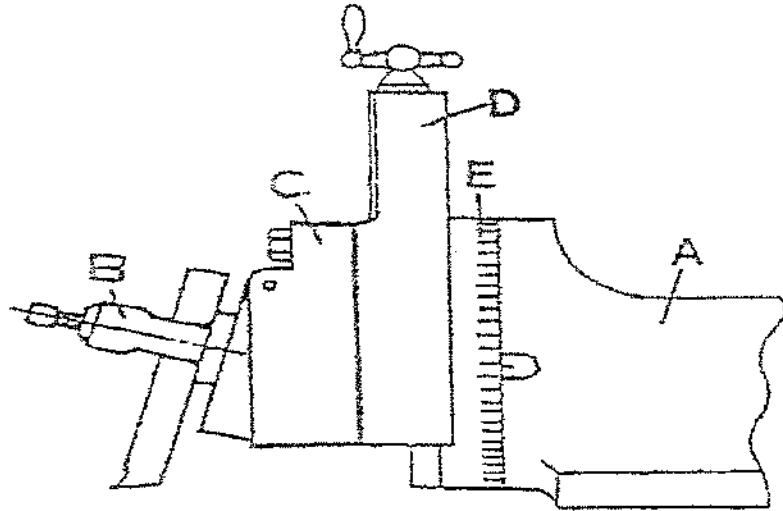

FIGURE 3
- 12.1 Study FIGURE 3 below and label the parts by writing down the names of the components of the Ram head next to the letters (A–E) in the ANSWER BOOK.